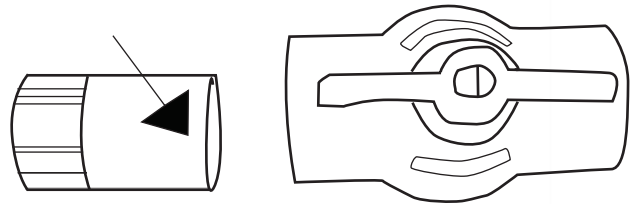

Figure 16
A.) Make sure that the Rogue™ Grand Rapids™ water system has been properly assembled as explained in the Rogue™ Grand Rapids™ Installation Instructions. Next, apply PVC glue around the end of the garden hose adapter indicated by the arrow in Figure 16.